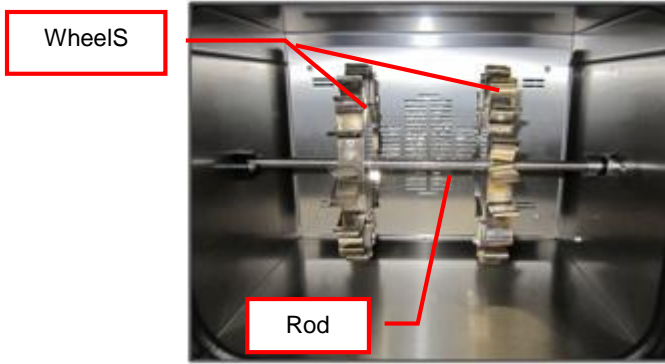

Fig. 1 Inserting Bottle Holder Carousel
- To insert bottle holder carousel (Fig. 1), slide the two wheels onto the rod and tighten the thumb screws (Fig. 2). Insert the rod into the holder on the right wall of the hybridizer chamber. Then, slide the rod into the holder on the left wall of the chamber.